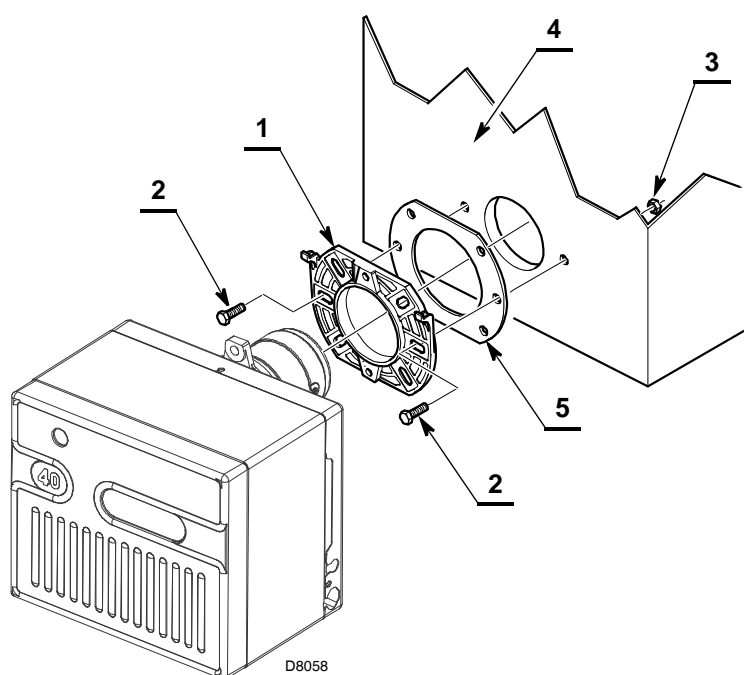

Fig. 9
- It is necessary that the insulating gasket 5)(Fig. 9) is placed between the boiler door and the burner flange.